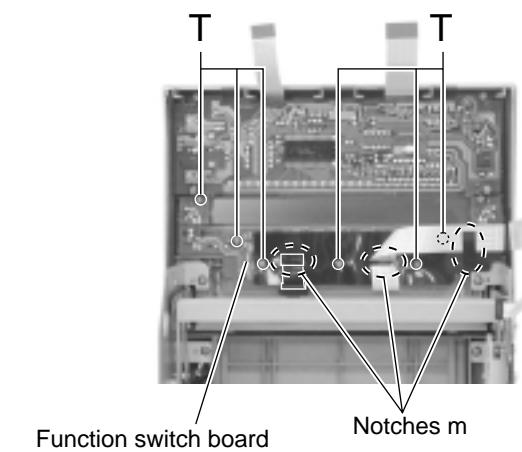

Fig.37
■ Removing the function switch board (See Fig.37)
CAUTION: When reconnecting each card wire, let it through the three notches **m** of the **□** as shown in Fig.37.